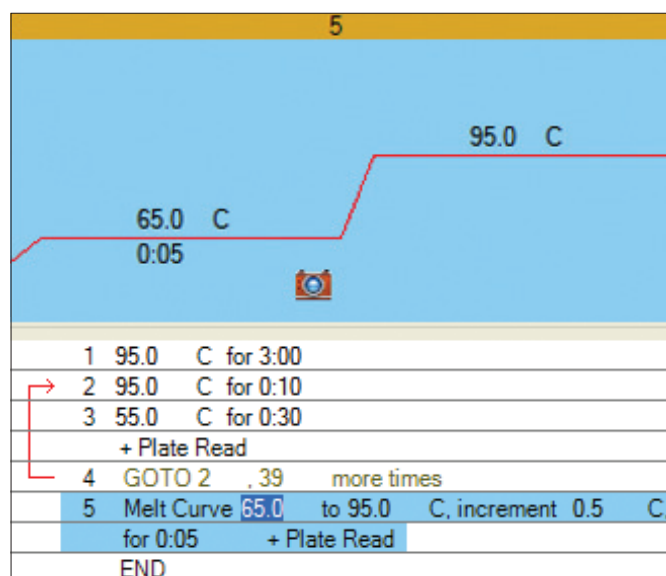

Fig. 4. Insert Melt Curve step in the Protocol Editor. A melt curve step is highlighted in blue in the graphical and text displays of the protocol.
2. In the graphical or text display, click on the temperature values to edit the lowest and highest temperatures of the melt curve range (Figure 4, Step 5).